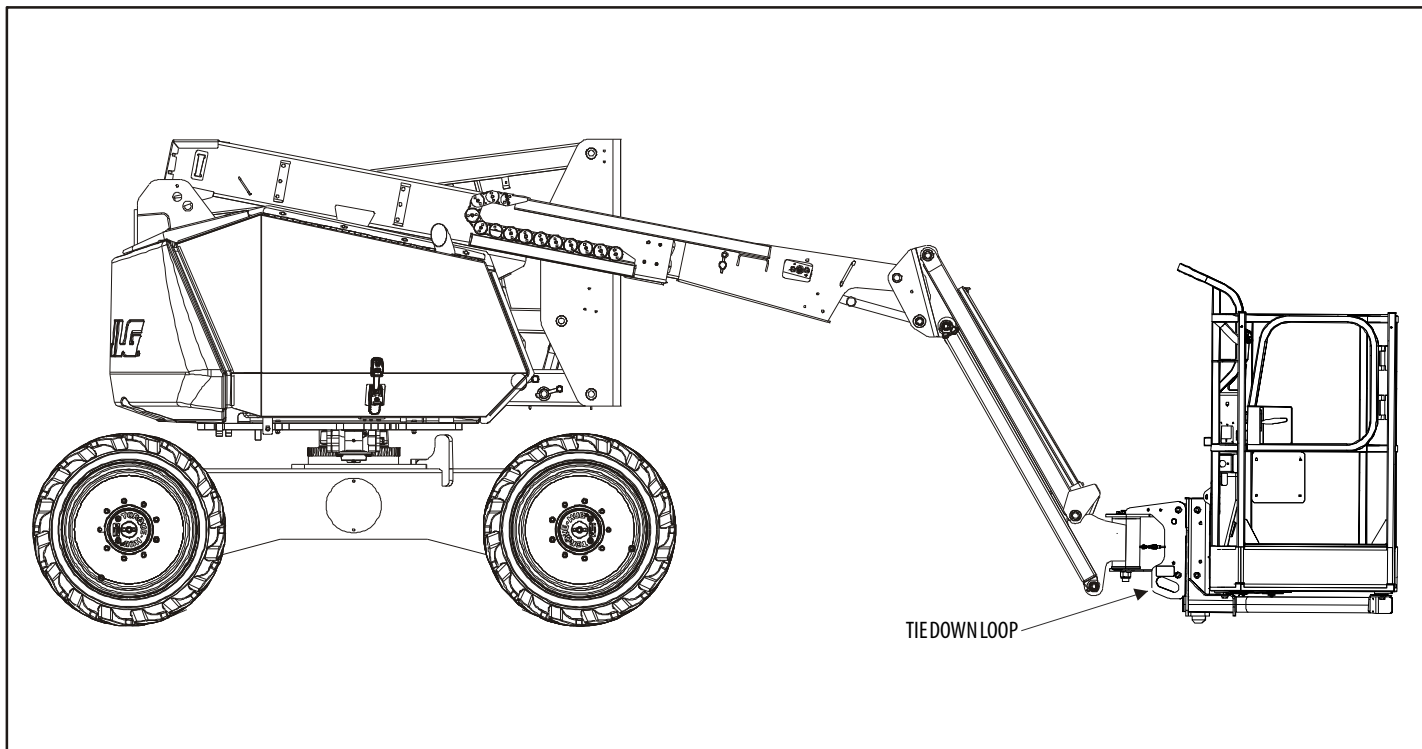
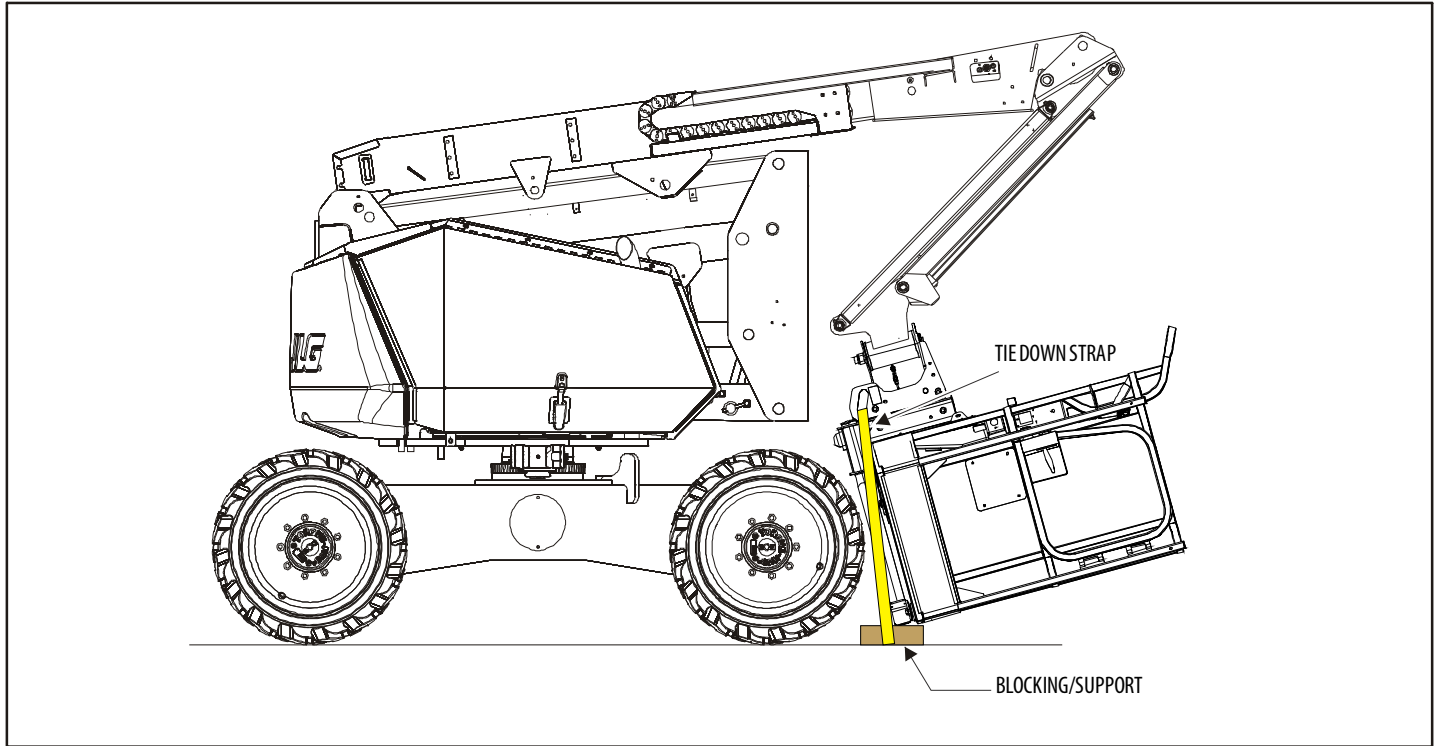

Figure 4-3. Stowed Position
Figure 4-4. Storage Position/Compact Shipping Position
(See Figure 4-4.)
1. Place the machine in the stowed position. Refer to Figure 4-3. From the ground control station, raise the main boom at least to the elevation shown in Figure 4-4. The main boom must be raised to prevent the platform basket from hitting the ground during this procedure.
3. Place blocking under the platform support, lower the platform support down onto the blocking by using Main Boom Lift Down as shown in Figure 4-4.
4. From the ground control station, raise the main boom at least to the elevation shown in Figure 4-4. The main boom must be raised to prevent the platform basket from hitting the ground during this procedure.
6. Place blocking under the platform support, lower the platform support down onto the blocking by using Main Boom Lift Down, and tie it down as shown in Figure 4-4.